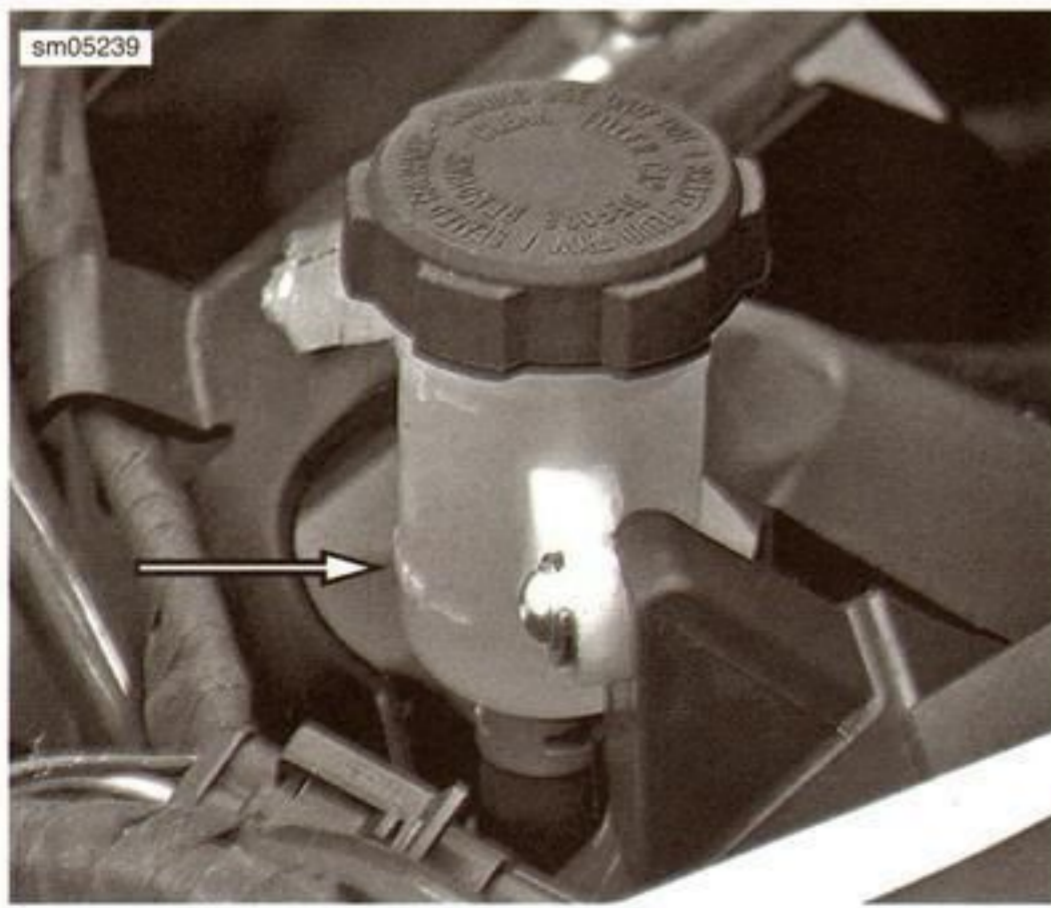

Figure 1-20. Rear Brake Fluid Reservoir LOWER Level
2. See Figure 1-20. Verify the fluid level in the reservoir.